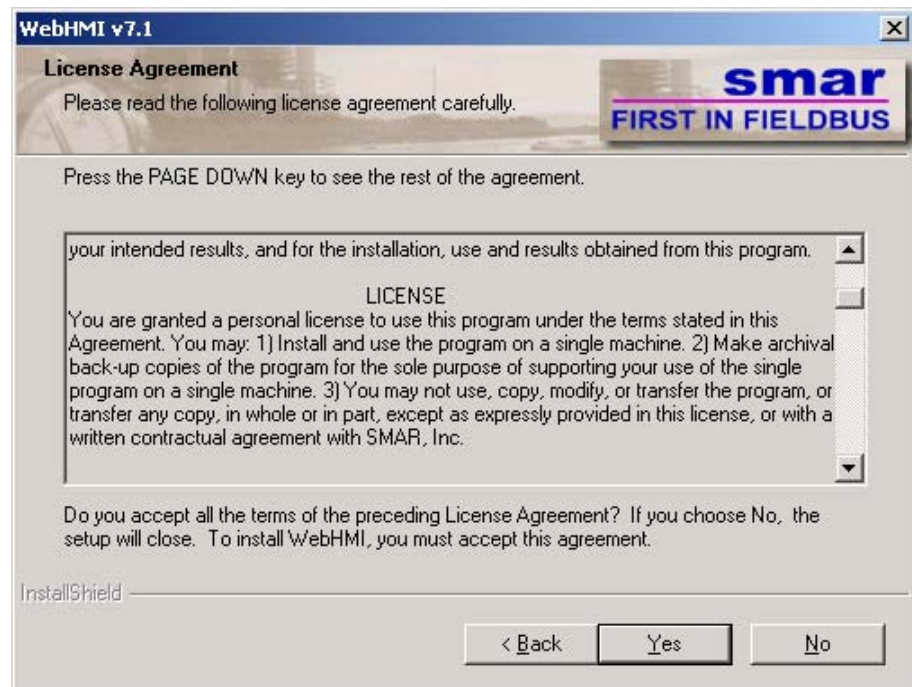

Figure 2.10. License Agreement
3. The **Smar WebHMI License Agreement** dialog box will appear, as shown in **Figure 2.10**. Carefully read the Smar License Agreement. If you agree with the terms and conditions, click **Yes** to continue.